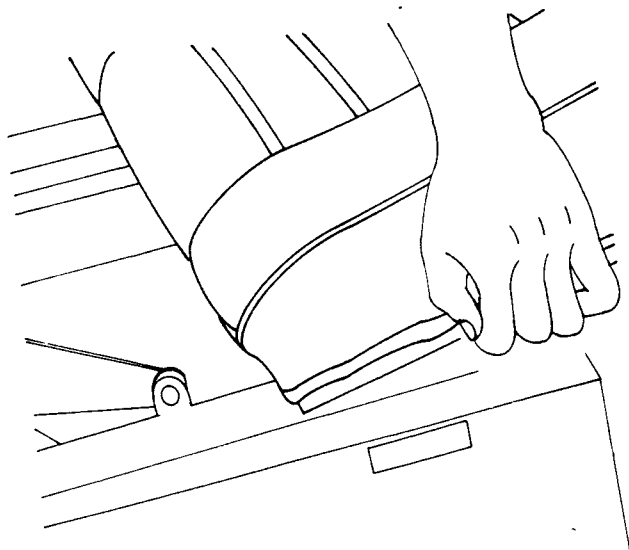

Fig O5.4
- (1) Refer to Fig O5.4. Lift off the seat.